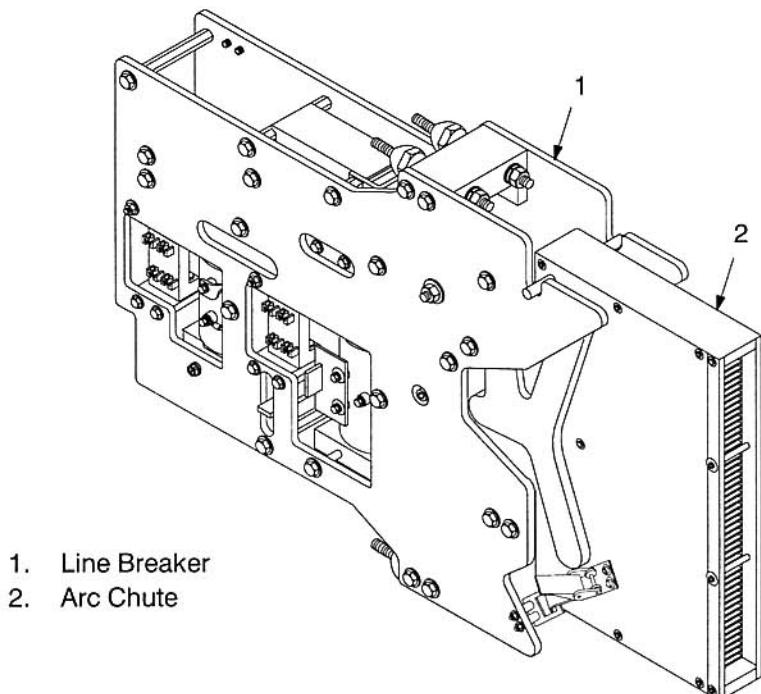

Figure 7–148 Line Breaker – 41A296327AFP6
- e. Inspect the moveable contact (6, Figure 7–149) notch through which the lower arc runner (4) travels for pearls and splatter.
- f. Use a small file or slotted head screwdriver to gently pry off any pearl or splatter which may bridge the gap between the contact tip (6) and arc runner (4). Do not attempt to clean the mating surfaces of the contact tips (5, 6) as this might cause there to be a poor contact surface during subsequent operations.
- h. After removing all pearls and splatter, lightly file the vertical surface of the moveable contact (6) tip notch to square the edges.